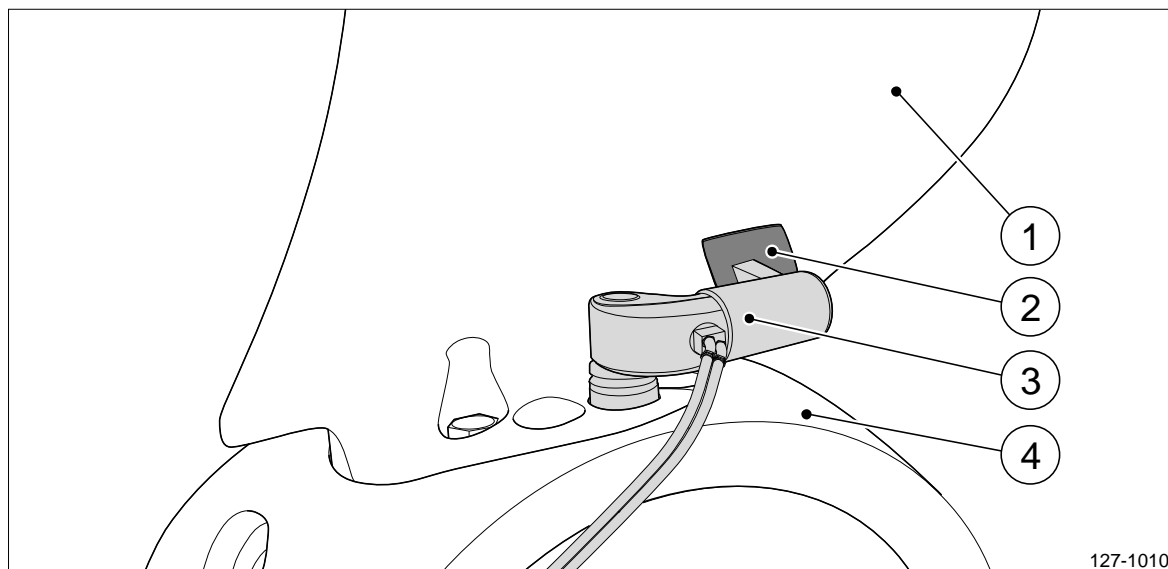

Figure 3 Alternative 2: Torque tool used for the blade bolts.
When using a torque tool according to figure 3, the tool's support part must be adjusted (the angle) towards the blade to obtain a steady torque force on the screws. To protect the surface on the blade use a thick aluminium, copper or brass plate (pos 2, figure 3) between the tool's support and the blade. The plate must be bent with a similar radius as the surface to avoid damages to the surface.